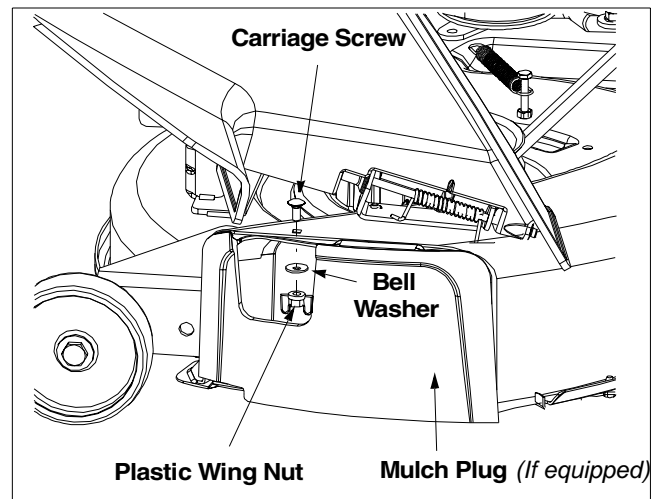

Figure 4
- To operate the cutting deck without mulching, simply remove the mulch plug by unthreading the plastic wing nut which fastens it to the cutting deck. This will allow the clippings to discharge through the side-discharge opening. See Figure 4 .